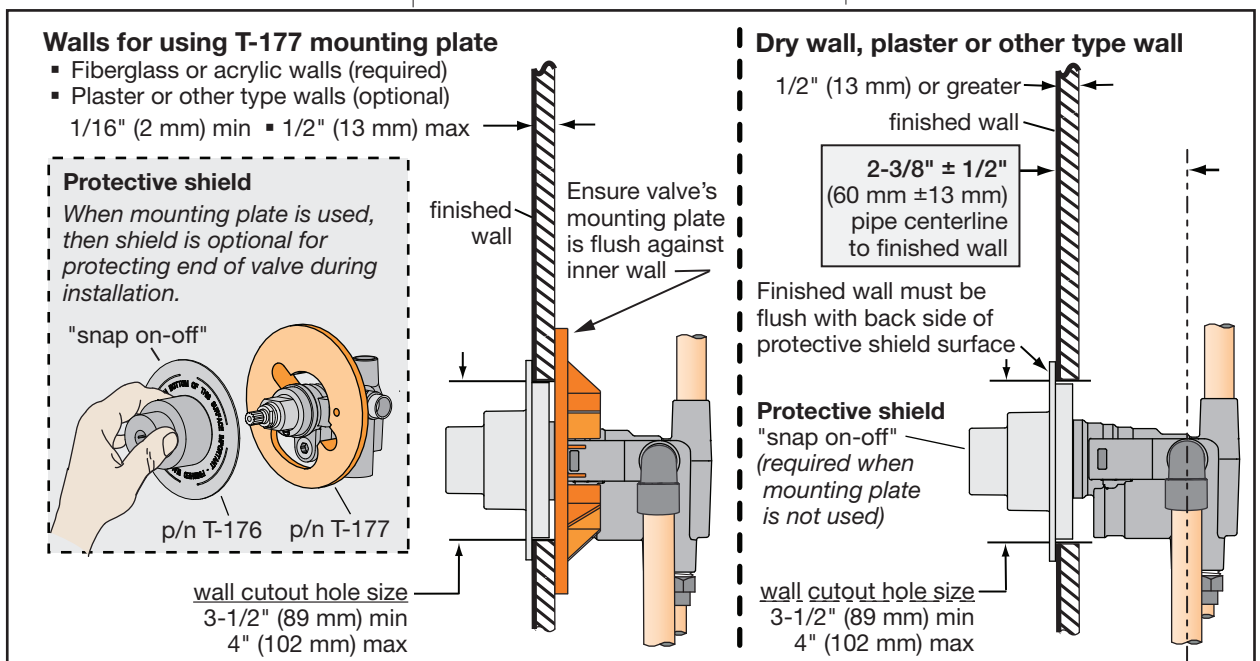

Figure 2 Mounting valve
Attach plastic protective shield by snap fitting over end of valve spindle as shown in Figure 2.
Install through cutout hole in wall as specified in Figure 2 below and Dimensions illustration on page 4.
**\* Notes:** (also reference page 2, figure 2 for details)
- (1) Walls for using T-177 mounting plate (MP)
- (2) Dry wall, plaster or other type walls 1/2" or greater
- (3) Dimensions subject to change without notice